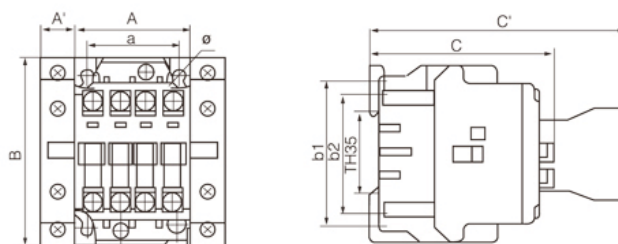

figure2: CJX7-9、12、16 dimensions and installation size
6.2 Contactors Overall and installation dimensions see Figure 2, Figure 4, Figure 5 and table 9.